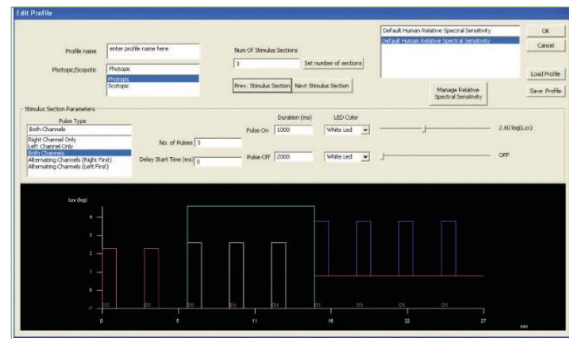

Figure 14 – The Edit Profile GUI, Section 2
**Section 2** (Figure 14) is defined by three pulses of white light– 2.60 logLux, 1000msec ON and 2000msec OFF, both eyes stimulated simultaneously.
In case of a blink (or similar artifact) as, for example, for pulse no. 7 (belonging to the second section, see Figure 23), pupillary variables are reported in red and some of them might not have been even calculated (and reported with "--", see Figure 23). A new feature has been added to the View Results GUI that allows the recovery of the affected pulse (Figure 24). The blink, or gap in the pupil profile, can be linearly interpolated by selecting the option L. Pupil Fill Data Gap for the left pupil or R. Pupil Fill Data Gap for the right pupil – in this case, a line is drawn automatically over the gap (see example in Figure 14, right inset) to indicate the fitting. If the linear fitting is not properly performed (or the gap is too large to be interpolated efficiently), the MAX, MIN and LAT of the pupil reflex can be set manually using the three input cursors at the bottom of the graph (Figure 24). Changes in the MAX, MIN or LAT values are reflected by the position of the three gray lines in the plot to give visual feedback of the values being changed (two horizontal lines for MAX and MIN, and one vertical line for LAT). The pupil variables reported in table C (Figure 22) are automatically updated after the linear fit option has been selected or a value during manual setting has been changed. Finally, the options R. Pupil Valid or L. Pupil Valid (Figure 24) serve to flag as abnormal (and to report in red) a reflex that is otherwise considered normal. This GUI feature is provided to manually correct those pulses where the tracking error was missed by the algorithm and that cannot be included in the analysis.